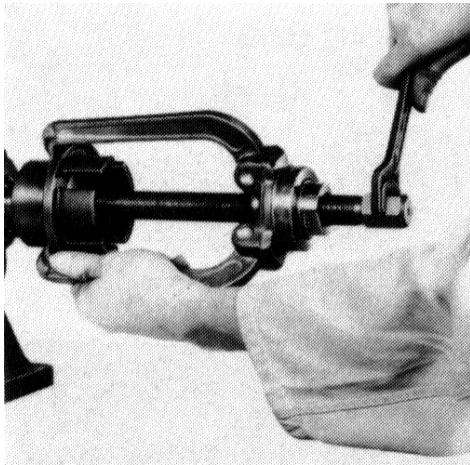

Fig. 47 - Wheel pulled
1. Pull of the half coupling with the aid of an extractor (see Figs. 47 and 48).